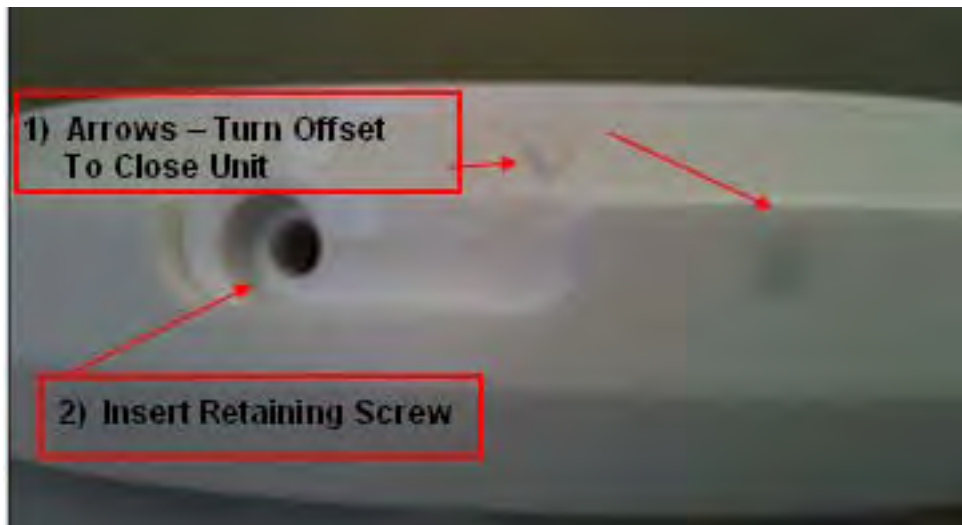

Figure 23. Closing the Master Unit
3. Turn the unit clockwise to latch it closed; the arrows will offset each other, as shown in Figure 23.